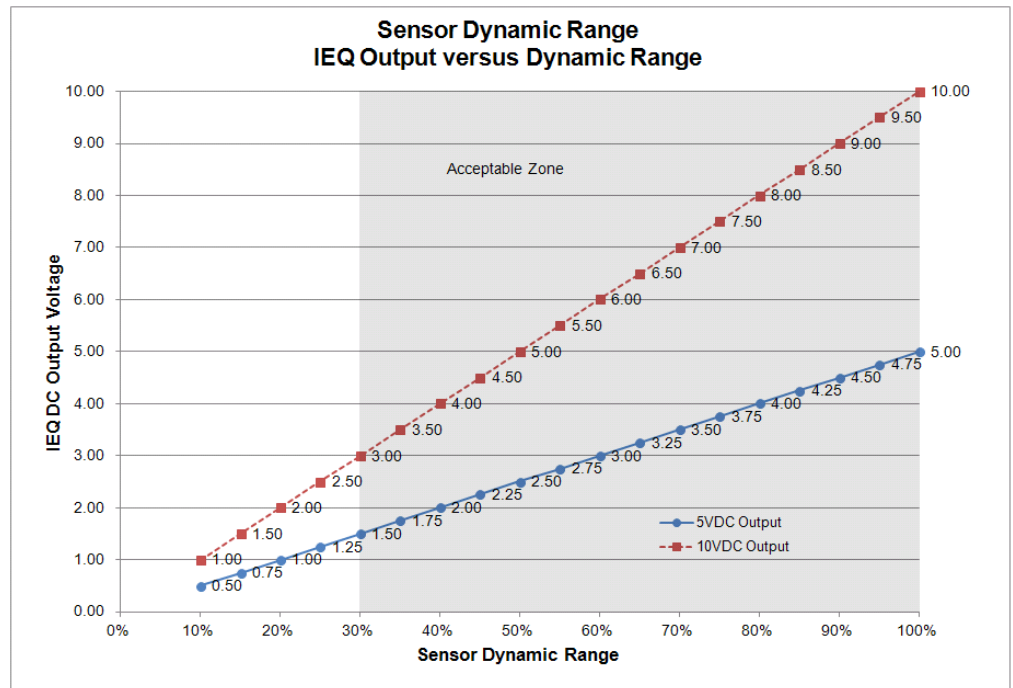

Figure 8: Acceptable Dynamic Range Output
- Use the graph in figure 8 to determine dynamic range.
The VOC algorithm requires a minimum of 3.0 dynamic range for proper operation. Sensors reporting 30% or less dynamic range should be considered for replacement. (See Figure 8)